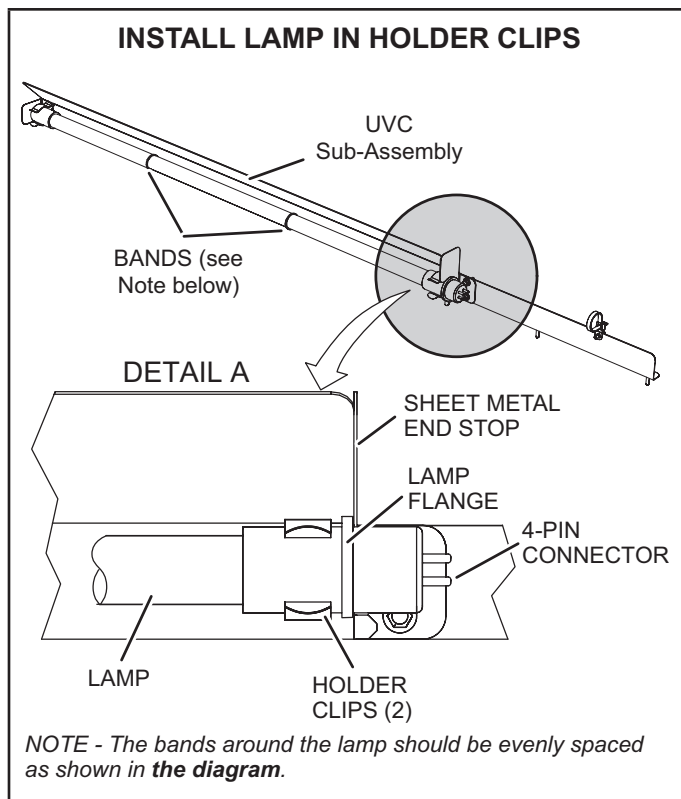

FIGURE 23
- 7 - Wear cotton gloves or use a cotton cloth when handling the new lamp. Place the new lamp in the holder clips of the UVC assembly. Verify that the lamp flange at the connector end is sandwiched between the lamp holder clip and the sheet-metal end stop (see FIGURE 23).